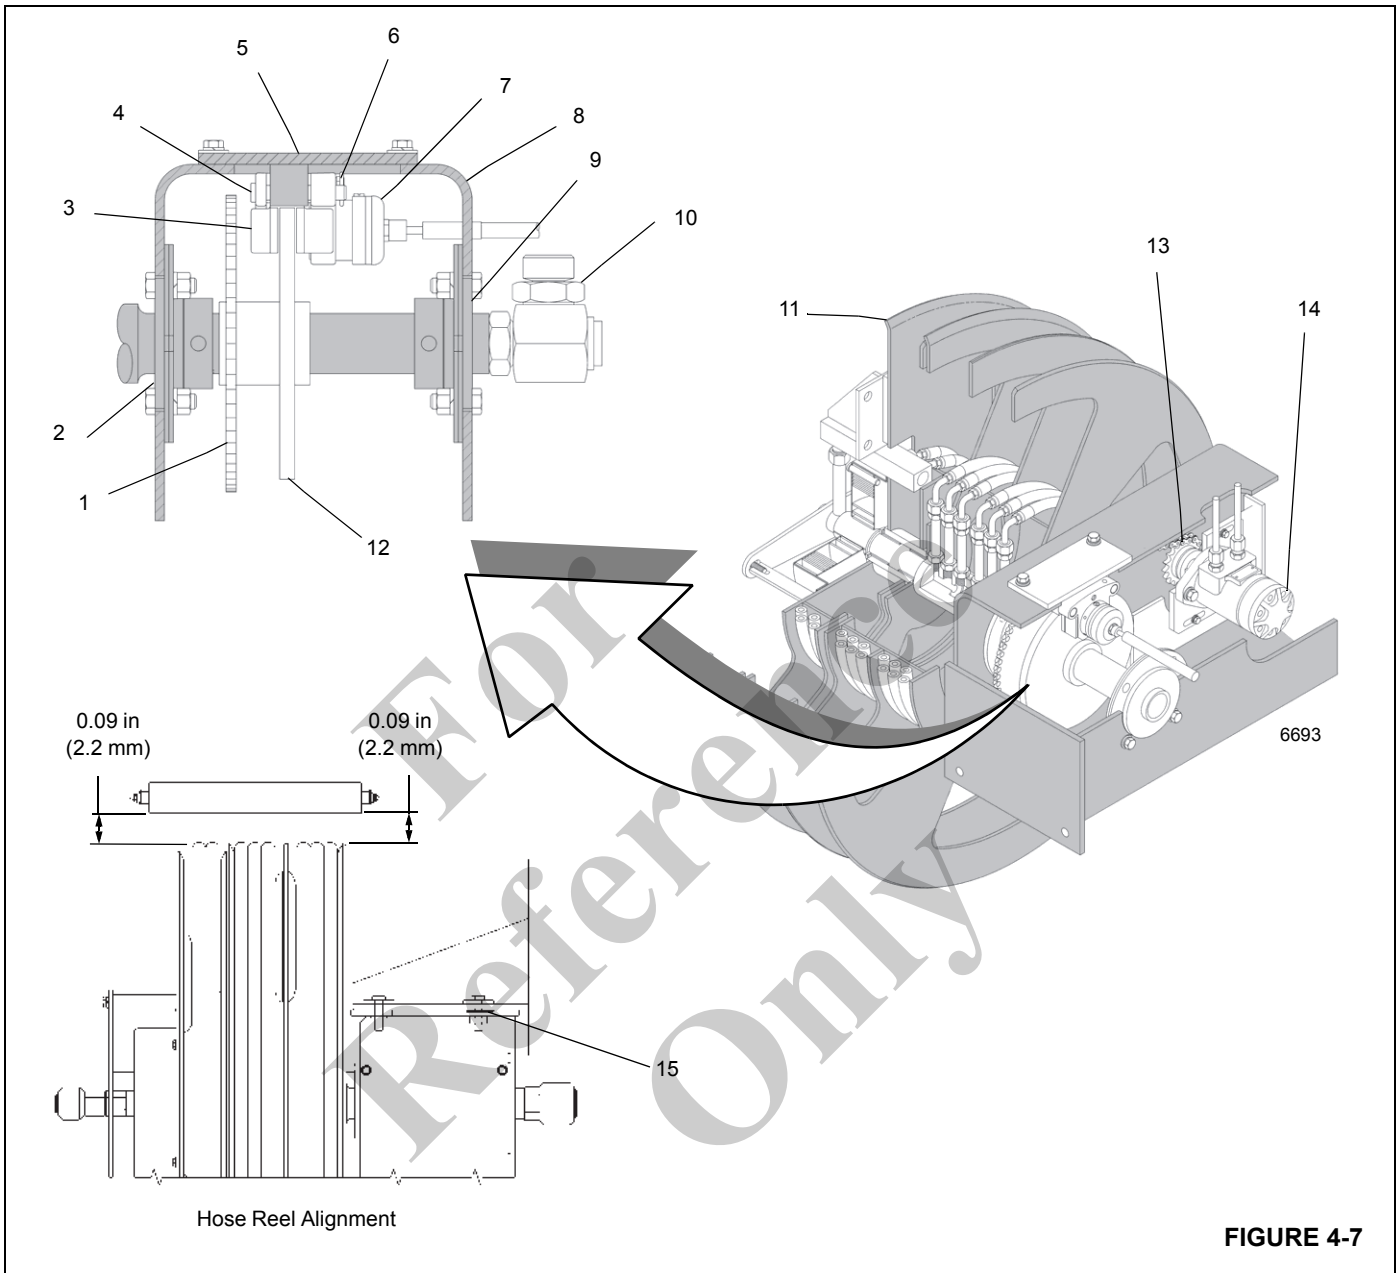

FIGURE 4-7
3. Assemble brake (Figure 4-7) onto brake disc and adjust as follows:
4. Install sprocket (Figure 4-7) as follows:
5. Install chain. Use the lockwasher, flatwasher and hex nut to apply tension. Measure chain slack near the center of chain span. Chain slack should be 0.25 in \pm 0.12 (0.6 cm \pm 0.3)(Figure 4-7).